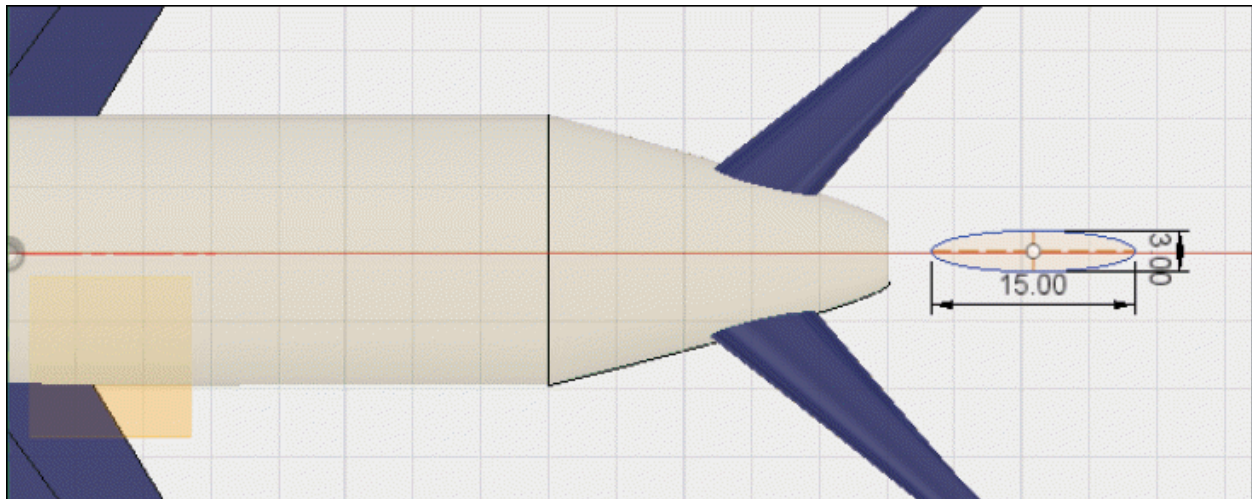

Figure-59. Creating another sketch for rear wing
- Create the sketch as shown in Figure-59.